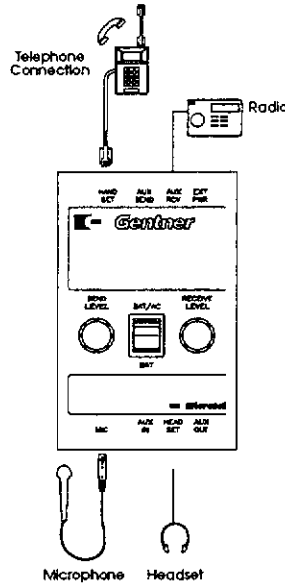

Figure 4
1. Set up your Microtel as described in “General Use” (page 4) and shown in Figure 4.